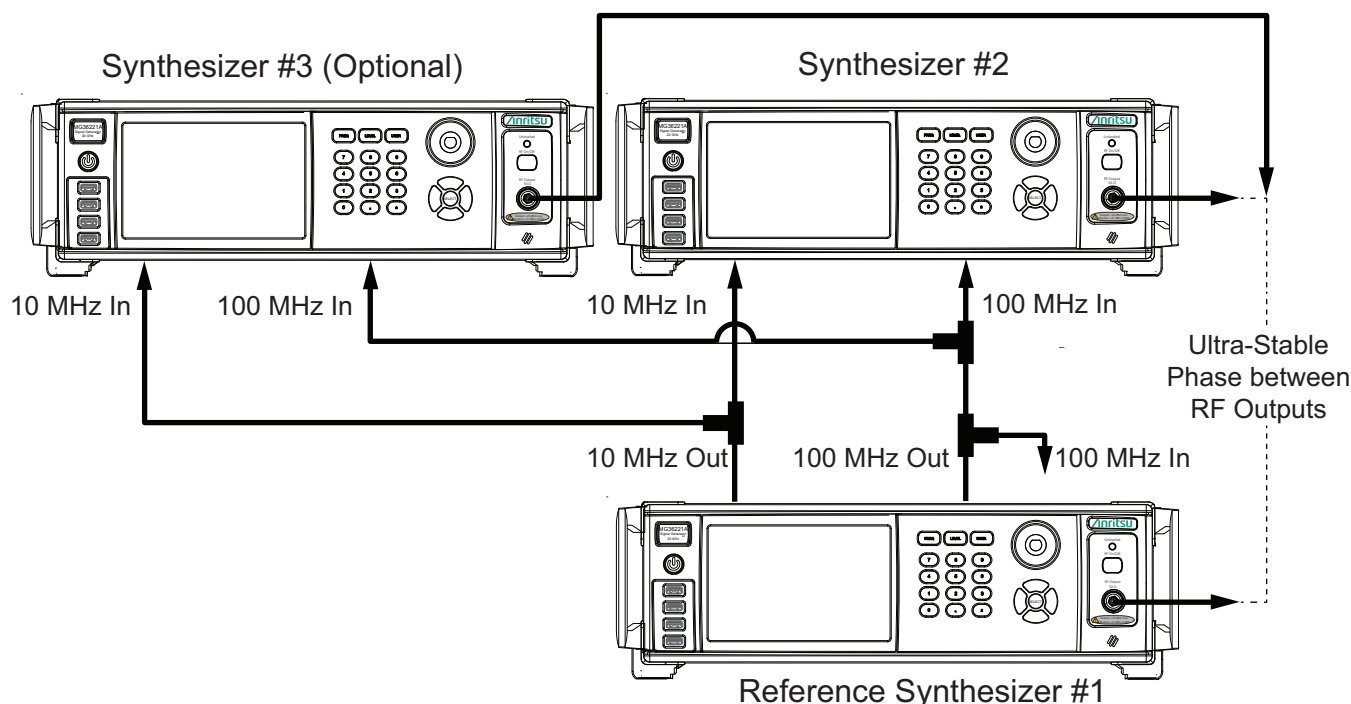

Figure 3-95. Phase Tracking Connections of Multiple MG362X1A Instruments
- **100 MHz Reference Input:** Accepts the 100 MHz reference signal from another MG362x1A. To enable two MG362x1A instruments to phase track with high stability, connect the instruments as shown in Figure 3-95 using 50 Ω BNC cables and a 50 Ω BNC Tee:
Once connected as shown in Figure 3-95, connect an oscilloscope channel to each of the RF outputs from the signal generators to display the initial phase difference between the RF signals. Use the “Phase Offset Menu” on page 3-5, adjust the phase offset of one of the units to achieve the desired phase relationship as shown on the oscilloscope. Once the desired phase relationship has been achieved, the Phase Offset value may be zeroed. This will not affect the phase shift of the RF output, but will establish the currently set phase as the reference value for all future entries of Phase Offset.